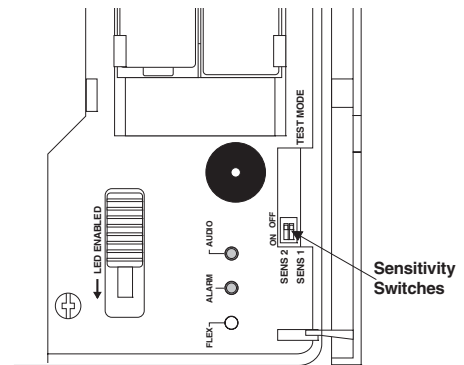

Figure 6. LED Sensitivity Switches
3. Use a small screwdriver to move the sensitivity switches to the desired setting (see Figure 6). Sensitivity settings are shown in Table 3.